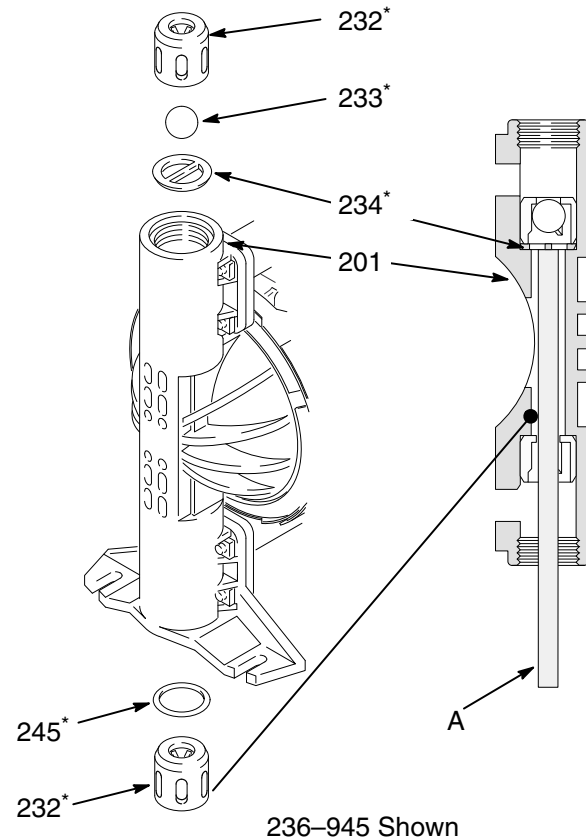

Fig. 12
2. Disassemble the bottom ball checks. See Fig. 12. Turn the pump over. Remove the top plug (205), o-rings (245*), and spacer (231).
6. Reassemble. Follow all notes in Fig. 12.